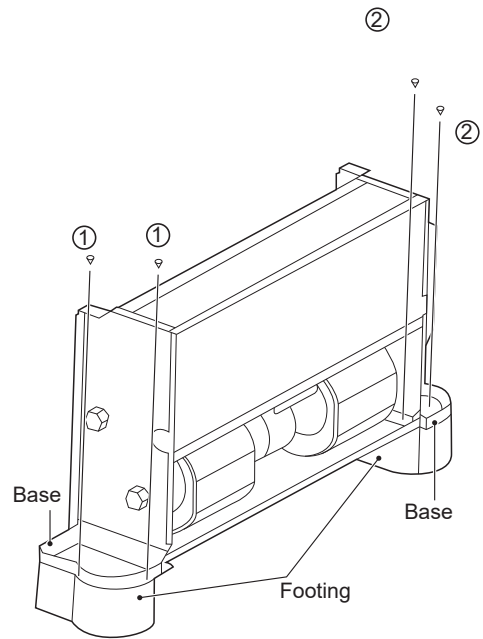

Figure 5-3
The footings shown in Figure 5-3 are optional. You can purchase them separately and install them as follows:
2. Place the mounting holes on the unit base into the corresponding footing locating pin and install screws ①\*2 and ②\*2 to fix the footing according to Figure 5-3.